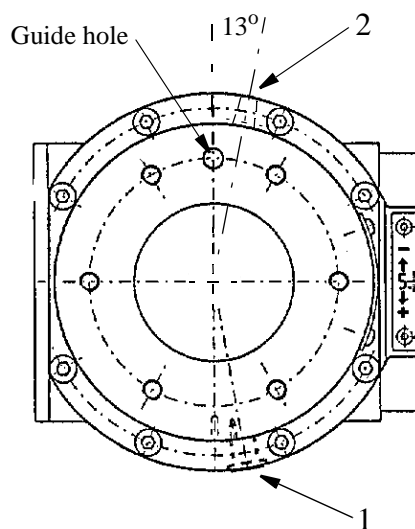

Figure 8 Greasing axis 6.
- Remove the plug from the drain hole (1). See Figure 8